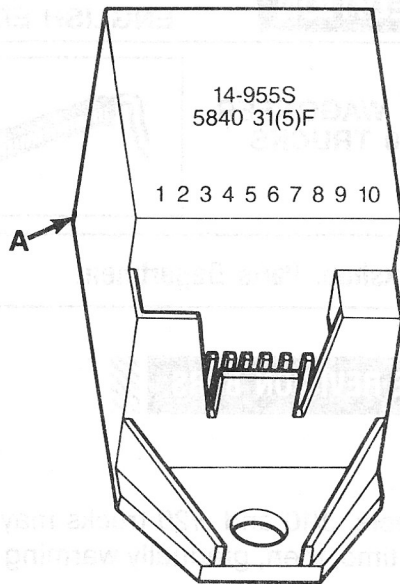

Fig. 1
1. Locate the temperature control module (A). It is mounted just below the steering column, behind the air duct extension (Fig. 1).